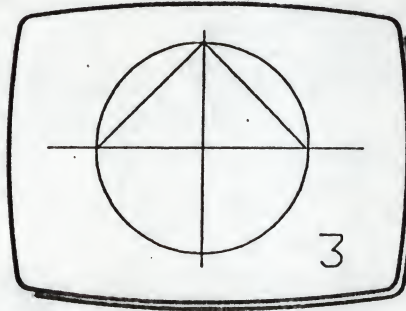

Fig 3
- 2 Draw two lines as (3) in Fig 3. Note that it is easier to add the detail at this scale.